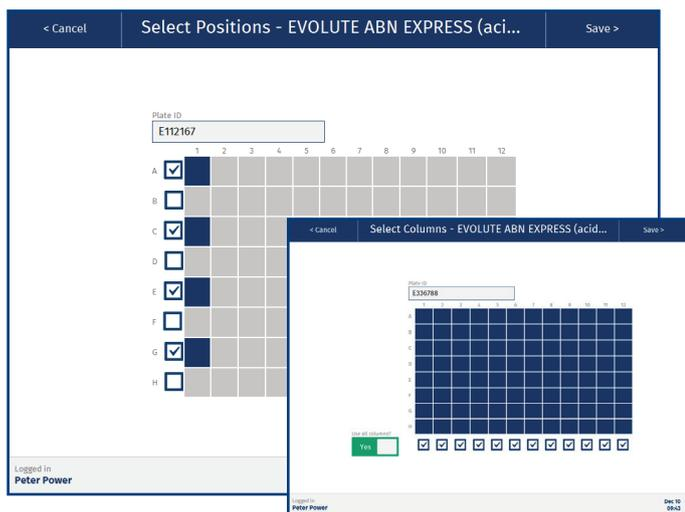

Figure 59. The Select Columns view (in the front) and the Select Positions view for when running individual samples (in the back).
- a. If you selected **Run Method** in step 7, select the plate/rack columns to be used in the **Select Columns** view (see Figure 59). To use all columns, enable the **Use all columns** option.
- b. If you selected **Run Individual Samples** in step 7, the samples must be loaded in the first plate/rack column. Select the wells/columns to be used in the **Select Positions** view (see Figure 59).